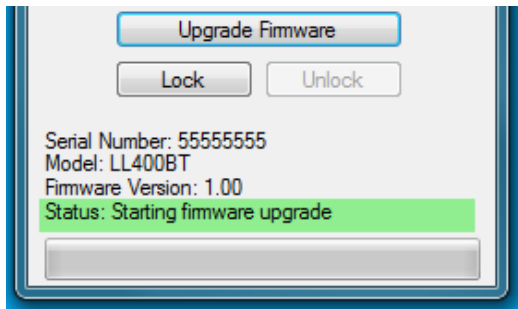

Figure 2.8.4
Step 4: Click the 'Open' button. A sequence of events will display on the 'status' screen as illustrated in figures 2.8.4 through to 2.8.7.